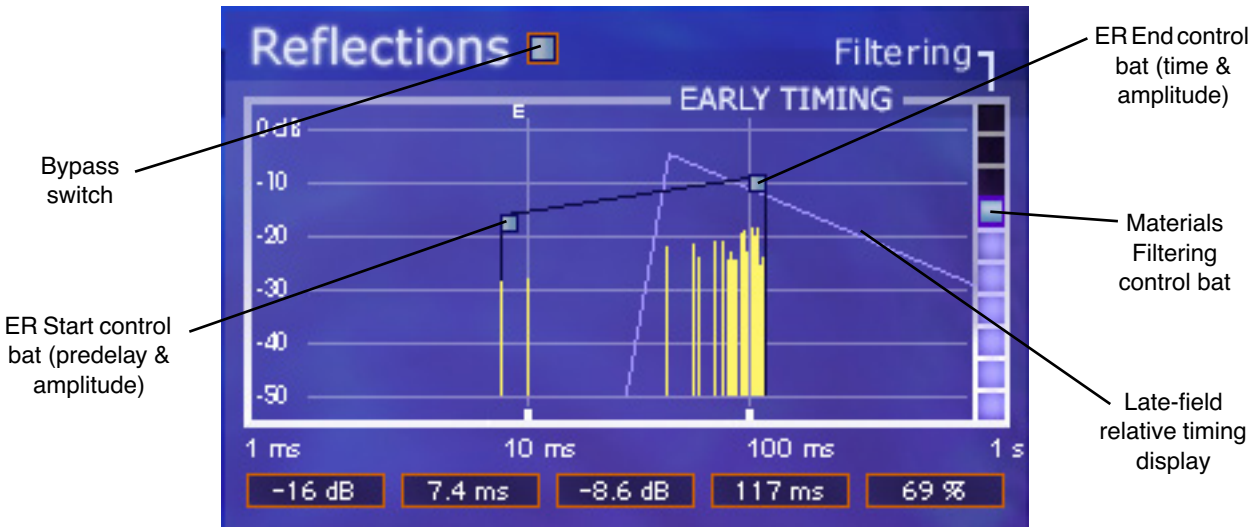

Figure 76. DreamVerb Reflections panel
The resulting early reflection pattern is displayed at the top of the Reflections panel (Figure 76 on page 212), where each reflection is represented by a yellow vertical line with a height indicating its arrival energy, and a location indicating its arrival time.
Note: The parameters in the Materials panel always effect the late-field reverberations. However, the materials parameters effect the early reflections ONLY if the “Filtering” parameter in the Reflections panel (Figure 76 on page 212) is set to a non-zero value.
The Reflections panel (Figure 76 on page 212) offers control over the timing and relative energies of the reverb early reflections (ER). These parameters effect the reverb's perceived clarity and intimacy. Each early reflection is visually represented by a yellow vertical line with a height indicating its arrival energy and a location indicating its arrival time.